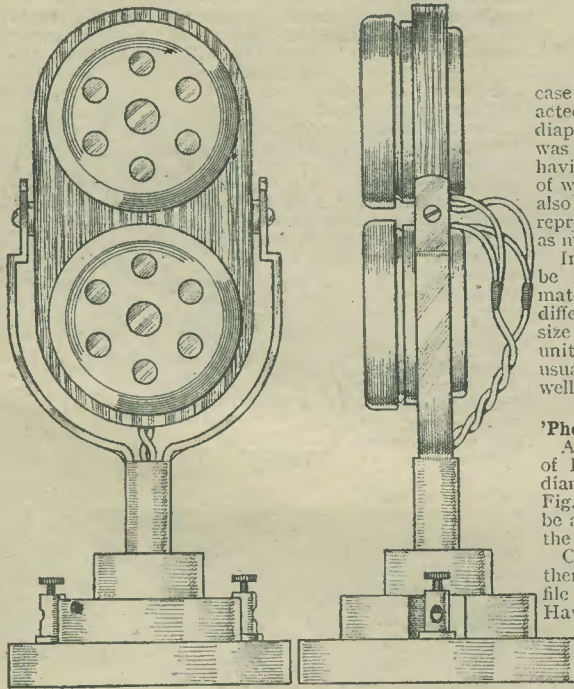

Fig. 1.—Front and side elevations of the mike.
**P**HONE units can be used for transmitting or receiving purposes at home, and in order to combine the two features, a somewhat unorthodox but simple, easily-made auxiliary mike has been designed, as shown by the elevations at Fig. 1.